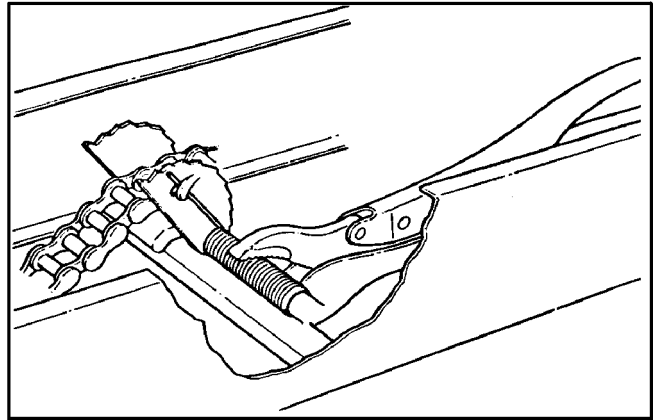

Figure 7-4. Securing tensioner cam
3. Turn the tensioner cam assembly in the direction which winds up the torsion spring and push the assembly down as close as possible to the cam follower block in the bottom of the frame. Secure it in this position with a Vice-Grip 10CR as illustrated in Figure 7-4.
2. Turn the tensioner cam assembly in the direction which winds up the torsion spring and push the assembly down as close as possible to the cam follower block across the bottom of the frame channels. Clamp it in this position with a Vice-Grip 10CR or similar plier as illustrated in Figure 7-4 and remove the drive chain.